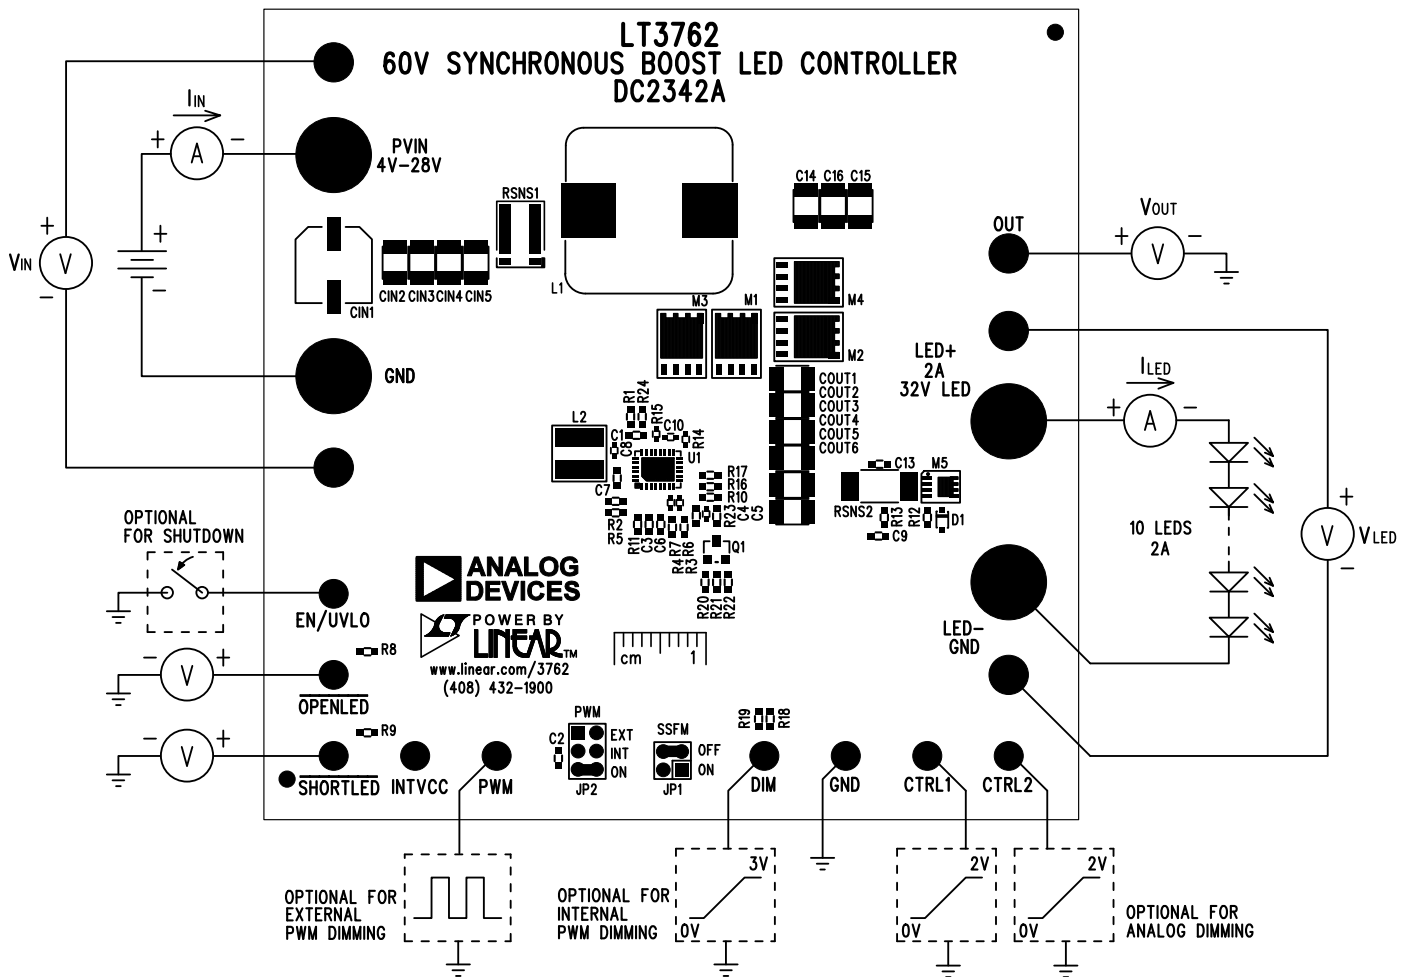

Figure 1. Test Procedure Setup Drawing for DC2342A
1. With power off, connect a string of LEDs that will run with forward voltage less than or equal to 32V (at 2A) to the LED⁺ and LED⁻ banana jacks on the PCB as shown in Figure 1.